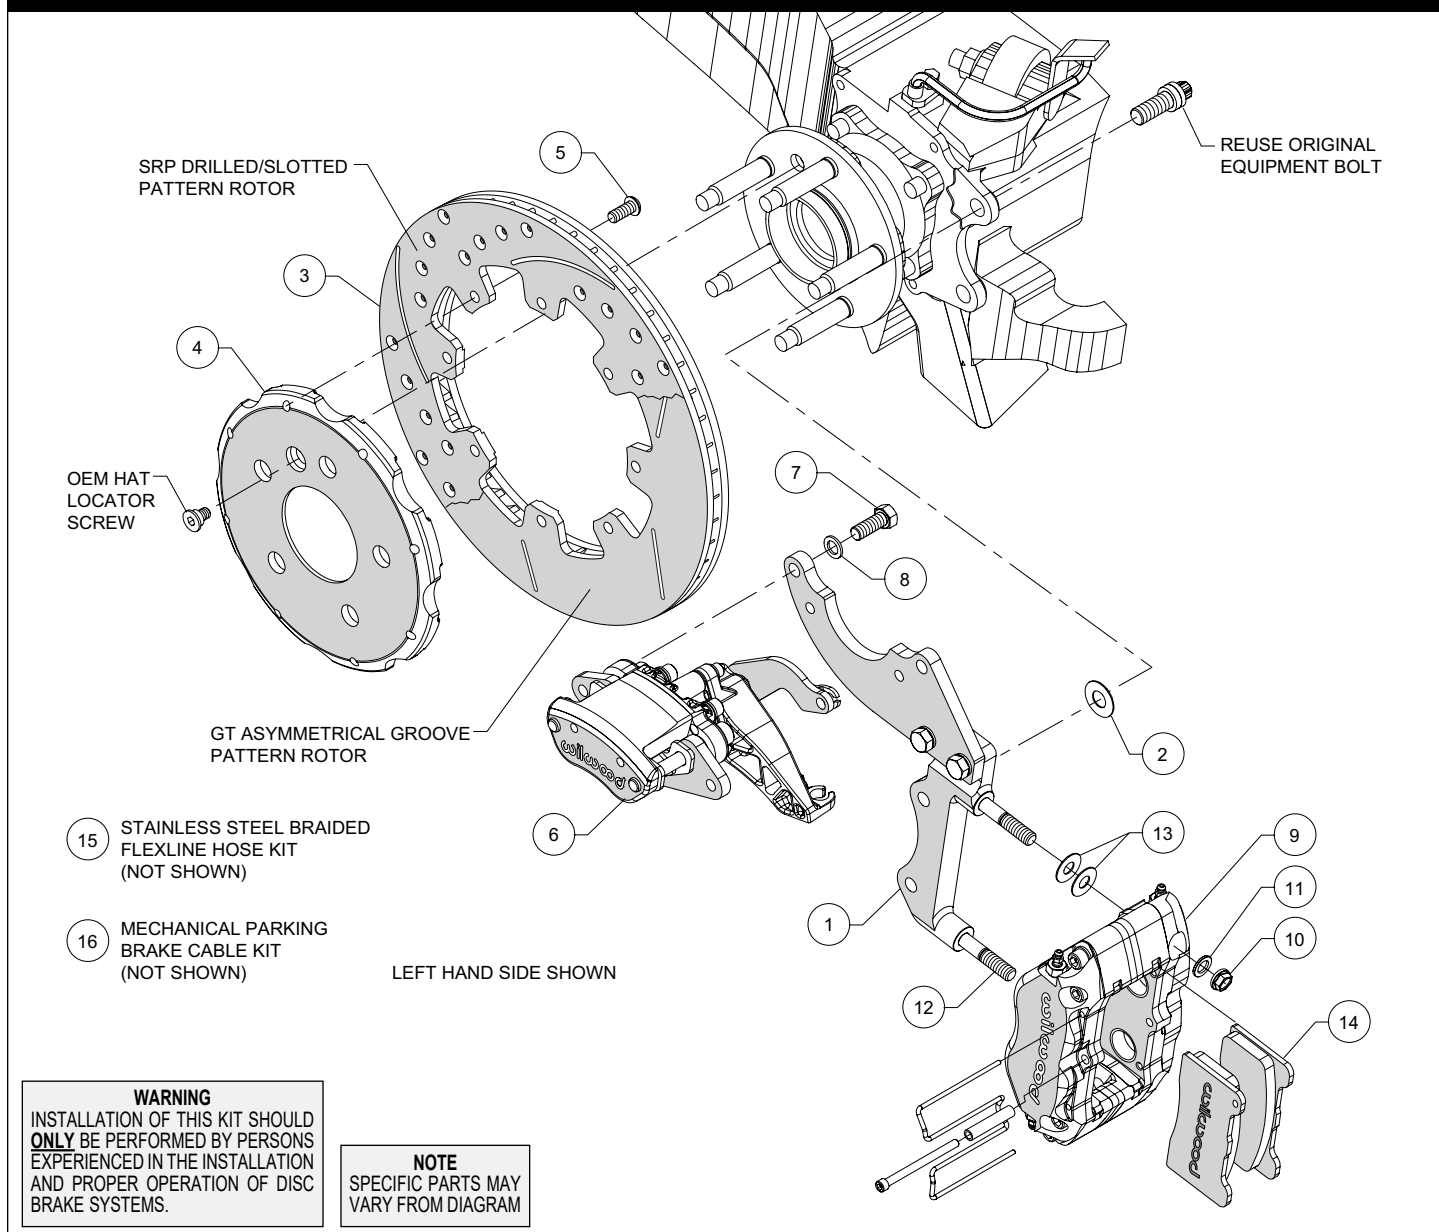

Figure 1. Typical Installation Configuration
NOTE: Numbers in parenthesis refer to the parts list and Figure 1 on the preceding pages.
- The caliper mount bracket (1) should initially be installed with clean, dry threads on the mounting bolts. Orient the bracket as shown in Figure 1, and Photo 1, and install using OE caliper mounting bolts. Initially place one .033" thick shim (2) on each bolt between the bracket and upright, Figure 1. Temporarily tighten the mounting bolts. **NOTE:** The bracket must fit squarely against the mount bosses on the upright. Inspect for interference from casting irregularities, machining ridges, burrs, etc. Later, after the caliper alignment has been checked, the mount bolts will be secured using red *Loctite*® 271.
- Orient the rotor (3) and the hat (4) as shown in Figure 1 and Photo 2. Attach rotor to hat using bolts (5). Apply red *Loctite*® 271 to the bolt threads and torque to 25 ft-lb using a criss-cross pattern.
- Check that the caliper mounting bracket (1) is aligned parallel to the rotor (3), Photo 4. If not, adjust by adding or subtracting shims (2) on the upper bolt between bracket and upright.
- Initially place two .035" thick shims (13) on each stud (12) as shown in Figure 1 and Photo 5. Mount the caliper (9) onto the bracket (1) using lock nuts (10) and washers (11), Figure 1. Temporarily tighten the lock nuts and view the rotor through the top opening of the caliper. The rotor should be centered in the caliper, Photo 6. If not, adjust by adding or subtracting shims (2) between the bracket and the mounting bosses. Adjust the offset using the same amount of shims on each of the two mounting bolts to keep the bracket aligned parallel to the rotor. Once the caliper alignment is correct, remove the bracket mounting bolts one at a time, apply red *Loctite*® 271 to the threads, and torque to OE manufacturer's specifications.
- Insert the brake pads (14) into the caliper with the friction material facing the rotor (3), as shown in Figure 1 and Photo 7. Check that the top of the brake pad is flush with the outside diameter of the rotor, Photo 8. If not, adjust by adding or subtracting shims (13) between the caliper and the bracket. After the caliper pad height is set, torque the caliper lock nuts (10) to 30 ft-lb. Secure the pads in place using the pad clip retainer as well as the center bridge pad retainer tube, bolt, and locknut, Photo 9. The locknut should be snug without play in the bolt or tube. Be cautious not to over tighten.
- Mount the parking brake caliper (6) onto the top section of the caliper mounting bracket (1) using bolts (7) and washers (8), as shown in Figure 1 and Photo 10. Apply red *Loctite*® 271 to bolt threads, and torque to 30 ft-lb.